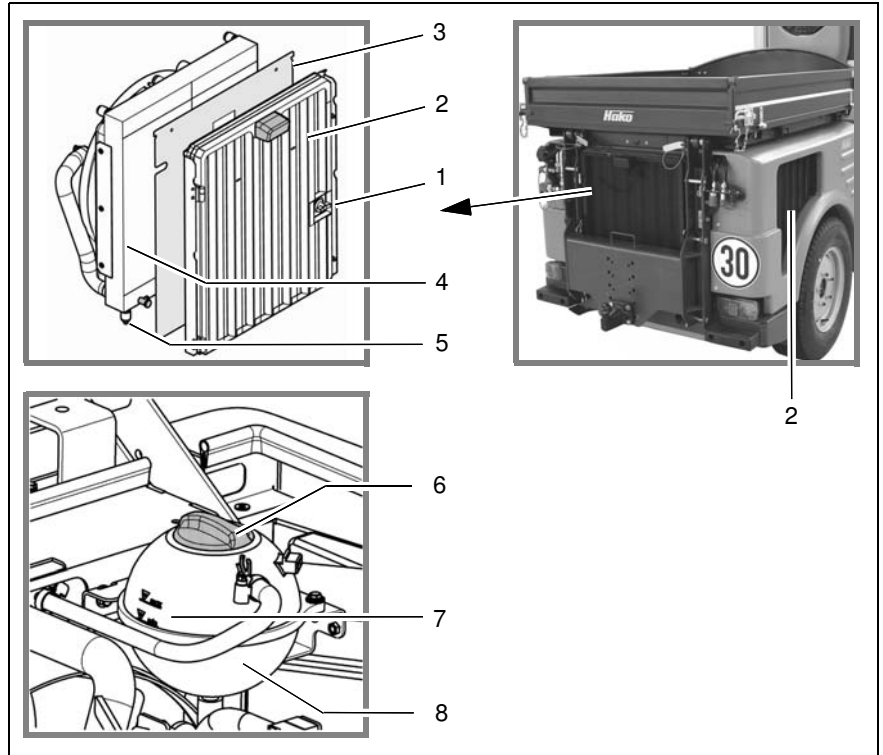

Fig.47
The combination cooler cools both the cooling water for the diesel engine and the hydraulic oil for the operating hydraulics. The cooling air is sucked in by a fan through the screens (Fig. 47/2) in the vehicle's rear section on the left-hand and the right-hand sides and in the rear door (Fig. 47/1) and is supplied to the combination cooler. Check the screens and the combination cooler (Fig. 47/4) every day and clean if necessary.
2. Open the rear door (Fig. 47/1).
3. Check the screens (Fig. 47/2) and the combination cooler (Fig. 47/4) for contamination and if necessary
If the vehicle has been fitted with a salt and sand spreader for winter operation, the cover plate has to be installed for the protection of the combination cooler (Fig. 47/3).
Check the coolant level in the compensation container (Fig. 47/8) every day and top up if necessary.
When the engine is cold, the coolant level has to be between the level marks (Fig. 47/7).
5. Unscrew the cover (Fig. 47/6) from the compensation container.
8. Close the cover (Fig. 47/6) again.
4. Place a container (capacity min. 10 liter) under the drainage valve (Fig. 47/5).
5. Open the rear door (Fig. 47/1) and remove the cover plate (Fig. 47/3).
6. Open the drainage valve (Fig. 47/5) and drain the coolant.
7. Close the drainage valve and unscrew the cover cap (Fig. 47/6).